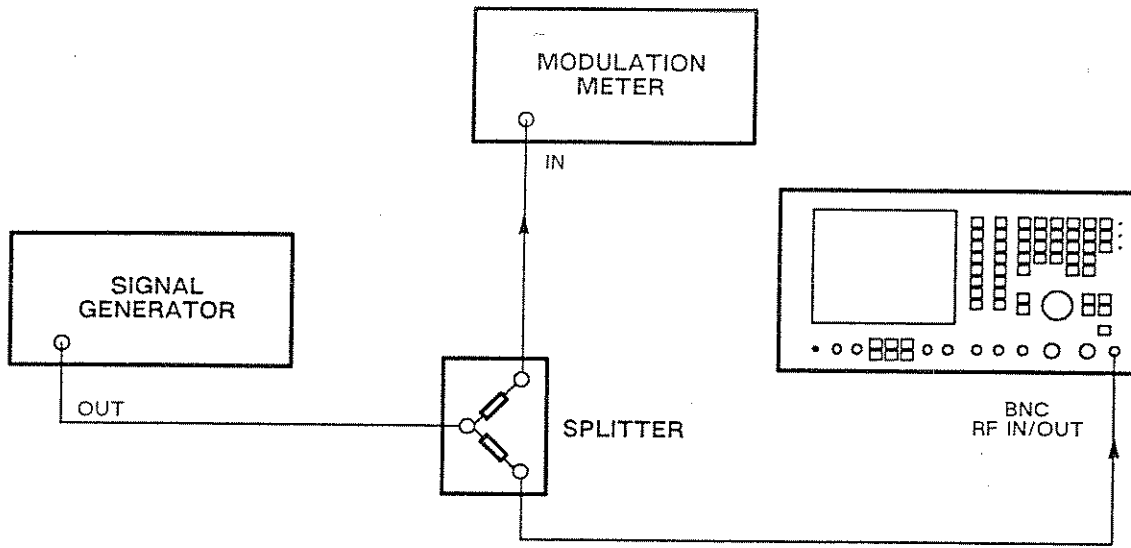

Fig. 6-2 Test equipment connections for oscilloscope demodulated FM and demodulated AM
- (1) Connect the signal generator to the input of the power splitter. Connect the outputs of the power splitter to the RF IN/OUT BNC socket and to the modulation meter. See Fig. 6-2.
- (2) On the 2955B, set the MODE to TRANSMITTER TEST, MOD to FM, SCOPE/BAR to SCOPE, FILTER to 0.3-3.4 kHz BAND PASS and RF IN/OUT socket to BNC.
- (2) On the 2955B, set the MODE to TRANSMITTER TEST, MOD to AM, SCOPE/BAR to SCOPE, FILTER to 0.3-3.4 kHz BAND PASS and RF IN/OUT socket to BNC.
- (3) Set the signal generator carrier frequency to 100 MHz, level to 7 dBm, AM and 1 kHz internal modulating frequency.
- (4) Set the modulation meter to AM, p-p/2, in a 0.3 to 3.4 kHz bandwidth.
- (5) On the 2955B, set the VERT scale range to 20%/div.
- (6) Adjust the signal generator depth until the waveform is shown on the oscilloscope as 80%.
- (7) On the modulation meter, check that the reading is 72 to 88%.
- (8) Repeat (5) to (7) for the other VERT scale ranges and modulation depths as follows:-